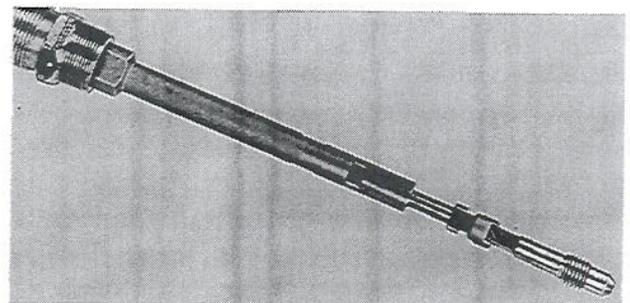

FIGURE 16
- 2c. For Curb Valve Tees. Curb Valve Tees use an E-Z Release type inserting tool. Lubricate the acme threads between the two parts of this tool and be sure they screw together freely without binding. Screw the end of the tool into the end of the stem and secure in place by lowering the fork over the squared section of the stem. **Figure 16.**